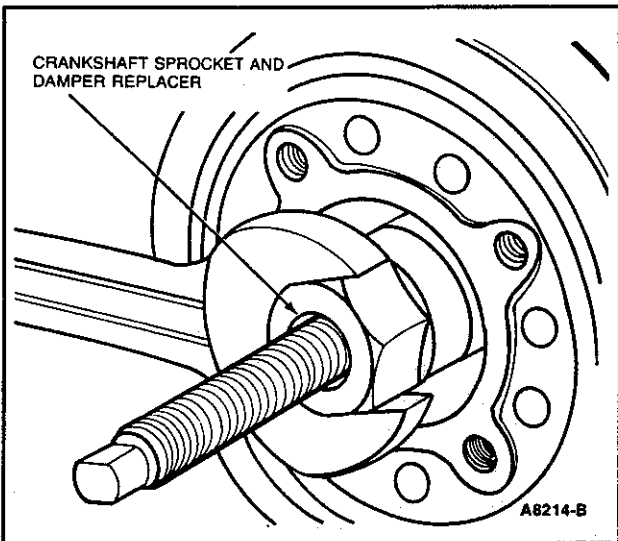

Figure 59 Crankshaft Vibration Damper Installation
12. Line up the crankshaft vibration damper keyway with the key on the crankshaft. Install the vibration damper on the crankshaft (Figure 59). Install the cap screw and washer. Tighten the screw to specifications. Install the crankshaft pulley.